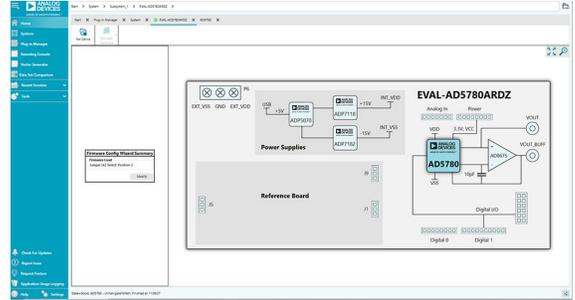

Figure 3. Board View of the EVAL-AD5780ARDZ
3. Double-click the board plug-in to open the **Board View** seen in **Figure 3**.